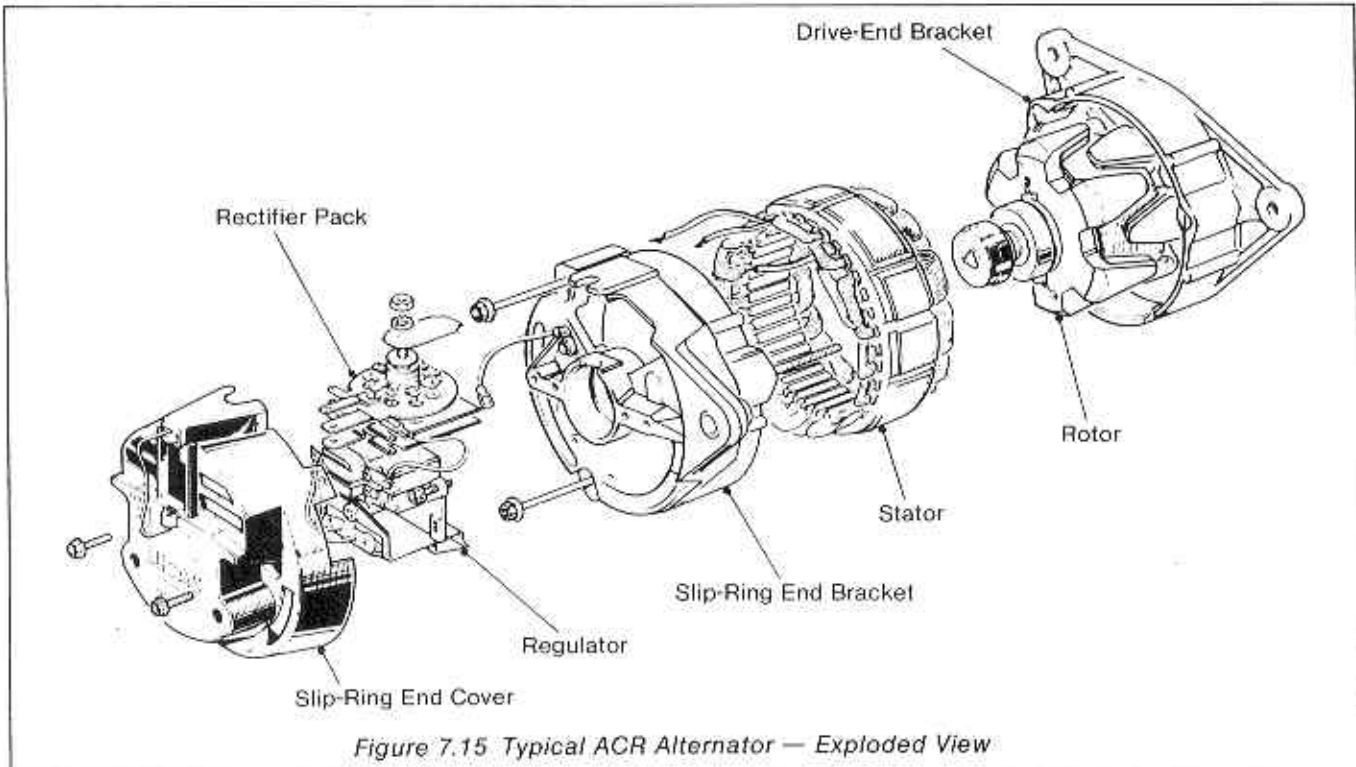

Figure 7.15 Typical ACR Alternator — Exploded View
7.31 A typical ACR alternator as shown in Figure 7.15 consists of: